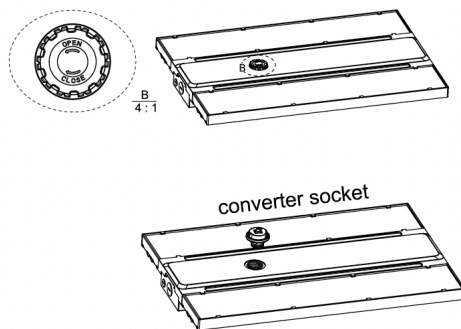

Figure 6
Step 1. Follow the instructions on the plug and rotate the plug off by hand. (Figure 6)